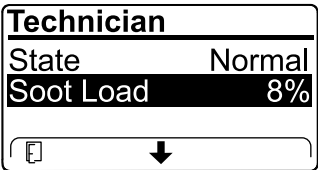

Figure 35
- View the soot load which is measured as the percentage of soot in the DPF(Figure 35); refer to the soot-load table.